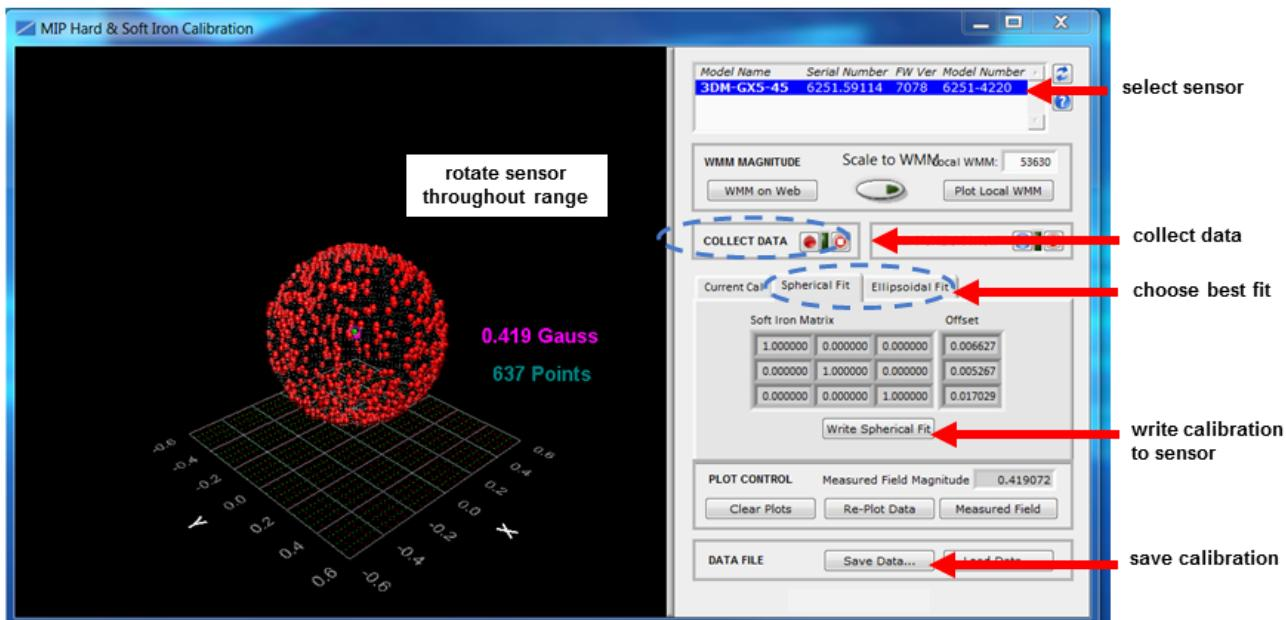

Figure 27 -Collect Calibration Data
6. Click the Spherical Fit or Ellipsoid Fit button, depending on the application (Figure 27 - Collect Calibration Data). Spherical Fit is often best for applications with calibration rotations restricted to a 2D plane: for example, a ground vehicle or a boat, because it will not likely not be rotated on all three axis. Ellipsoid Fit is generally a better correction when soft iron effects are present but only if enough data points can be collected in all